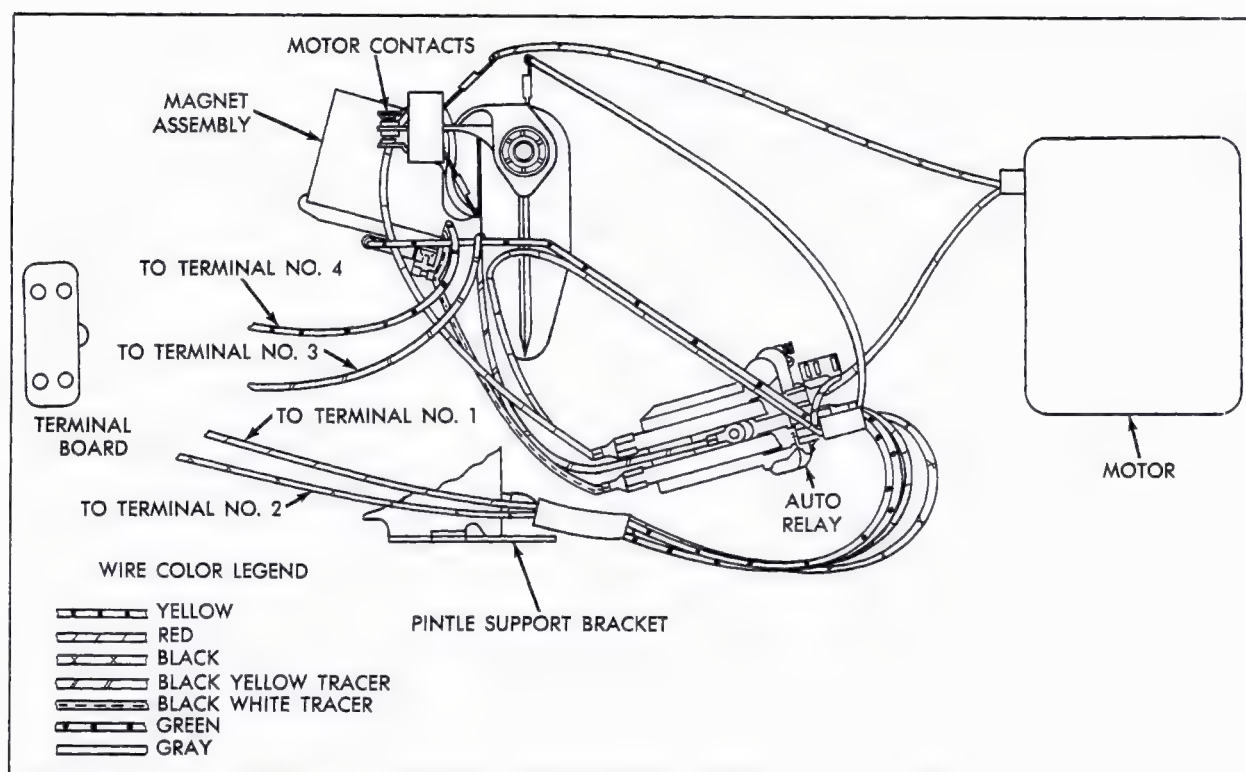

Fig. 15-20 Magnet Assembly
**NOTE:** See Fig. 15-20 when performing steps 1-5.
NOTE: See Fig. 15-20 when performing steps 8-12. Wires must be routed exactly as illustrated.